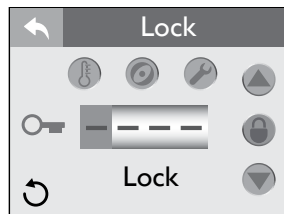

Figure 12.8b
A. Temp Lock (Figure 12.8b):
B. Spa Lock (Figure 12.8b):
C. Service Lock (Figure 12.8b):